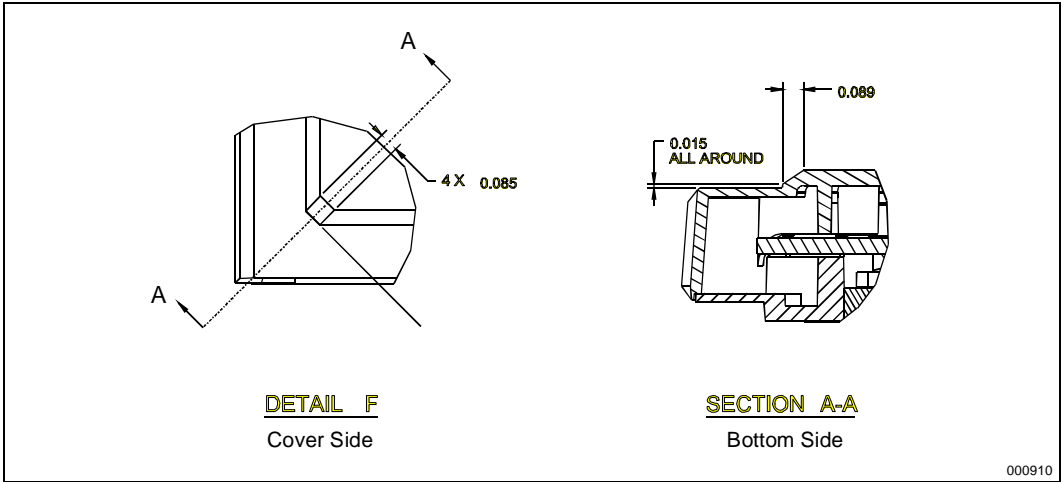

Figure 34. S.E.C. Cartridge Cover Details
1. This table applies to the dimensions noted in Figure 29 through Figure 34.